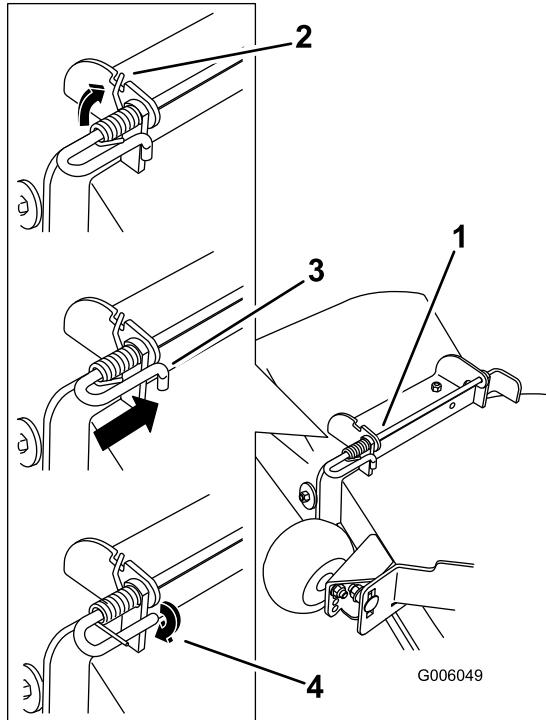

Figure 7
4. Lift the long end of the spring and place it into the notch on the deflector assembly bracket (Figure 7).
5. Secure the rod and spring assembly by twisting it so the short end of the rod can be placed behind the front bracket welded to the deck (Figure 7).